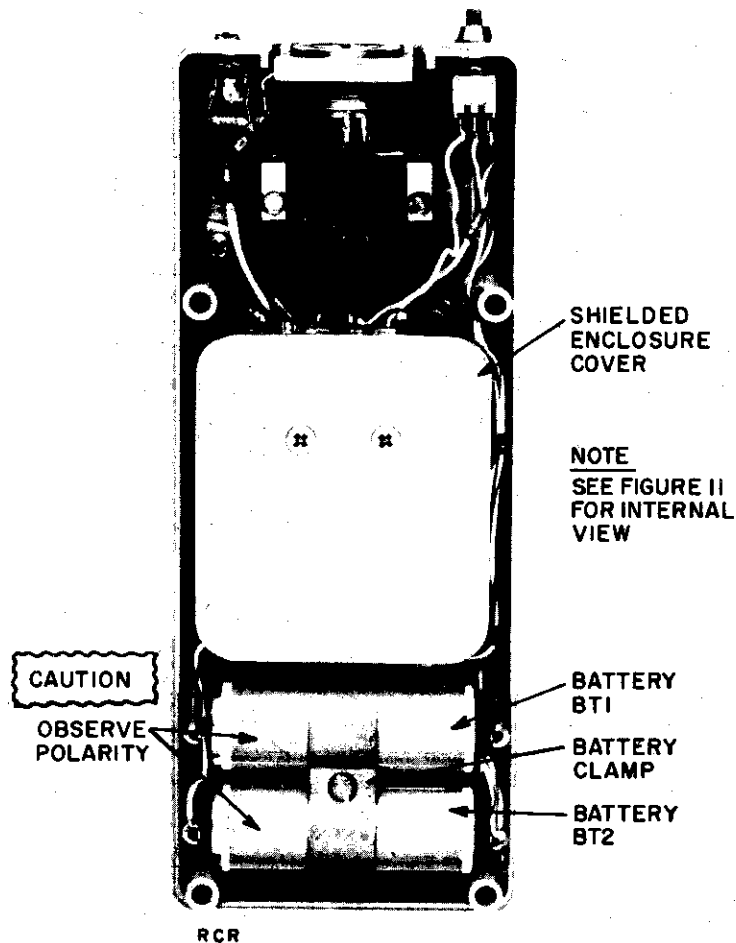

Figure 6. Model 484 Power Density Meter Rear View with Cover Removed
- (1) Loosen the four rear screws that secure the case cover and remove cover.
- (2) Loosen battery clamp screw. Refer to figure 6.
(5) Remove two screws on shielded enclosure cover (figure 6) and lift cover off the UUT
(8) Turn power OFF on both UUT and test fixture. Disconnect equipment and replace shielded enclosure cover (figure 6) and rear case cover.